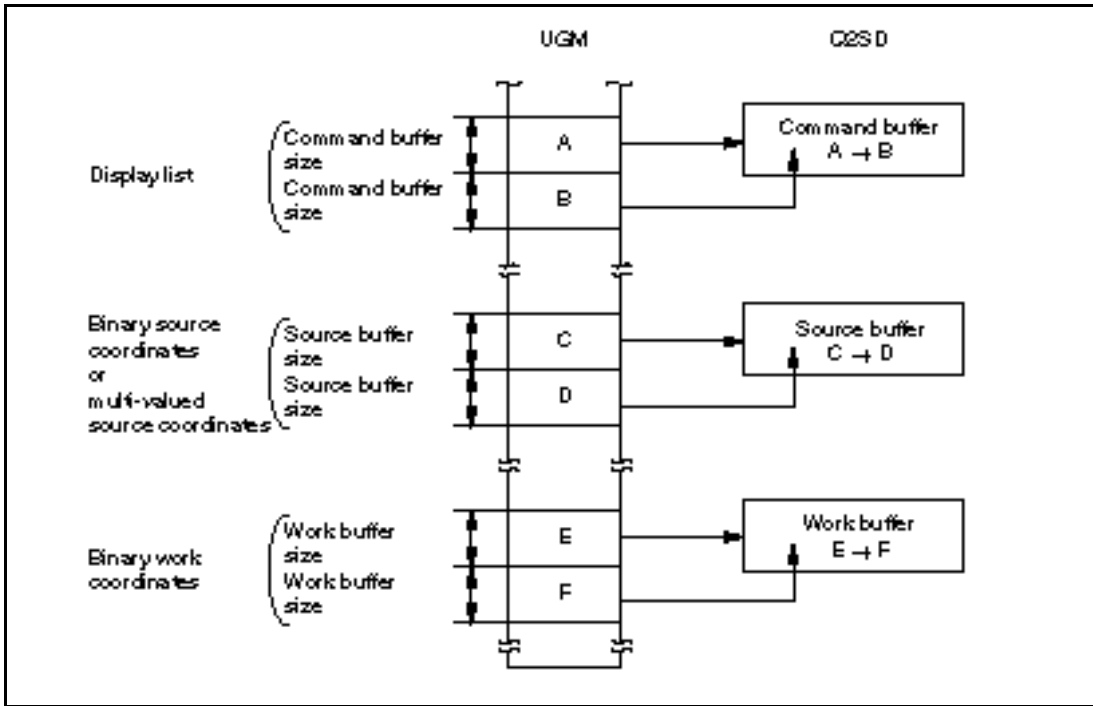

**Figure 4.12 Binary Work Data Configuration**
**Binary Work Data:** Binary work data is defined as work coordinates (2-dimensional coordinates). Work data is used to implement polygon painting. Polygon outline data is created with the FTRAP command, etc., and the created figure data is used to delineate the rendering figure. If, for example, the POLYGON4C command is used jointly for work, the work area polygon can be drawn in the rendering area with the specified color value. The configuration of binary work data is shown in figure 4.12.